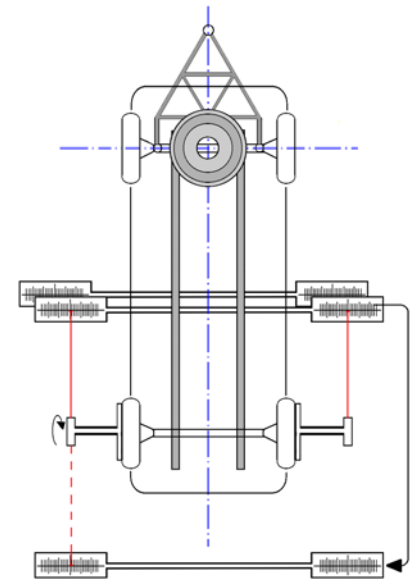

Fig. 22
- Now place a scale on the other marking of the axle being measured (*Fig. 22*)